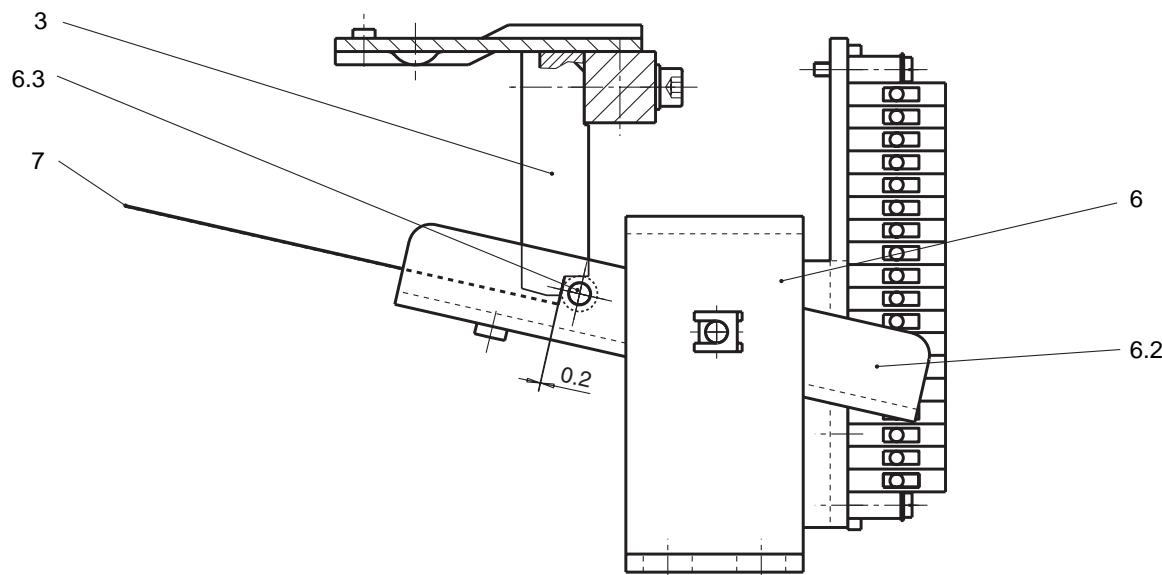

Fig. 3
8. Einstellblech (0,2 mm) (7) zwischen Klinke (3) und Verklinkungsbolzen (6.3) legen (Fig. 3)
8. Put adjusting plate (0.2 mm) (7) between latch (3) and latching bolt (6.3) (Fig. 3)
9. Fix assembly (6) (Tightening torque = 6 ± 0.5 Nm)
10. Remove adjusting plate (7)